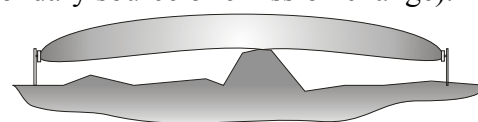

Fig. 10.1
10.1.1 The sector between the unit's TU and RU must satisfy the following requirement: a) surface of the sector must be leveled with a tolerance of $\pm 0.3\text{m}$ at the portion of the perimeter where the detection area touches the ground surface. With larger positive differences the upper edges of obstacles can form rather powerful secondary sources of radio waves or completely screen the RU from TU (where there is no line of sight), where in case of a reduced signal the signal/noise ratio decreases accordingly that may lead to a decrease of the interval between false alarms. Fig. 10.1 represents a case where the height of an obstacle reaches the height of a nominal axis drawn through the centers of the TU and RU. It can be seen how the detection area is distorted and possibilities of its uncontrolled crossing arise for the "two-double" position; at that any changes of the upper surface (edge) of the obstacle significantly change the amplitude of the legitimate signal (the surface properties and properties of the secondary source of emission change).